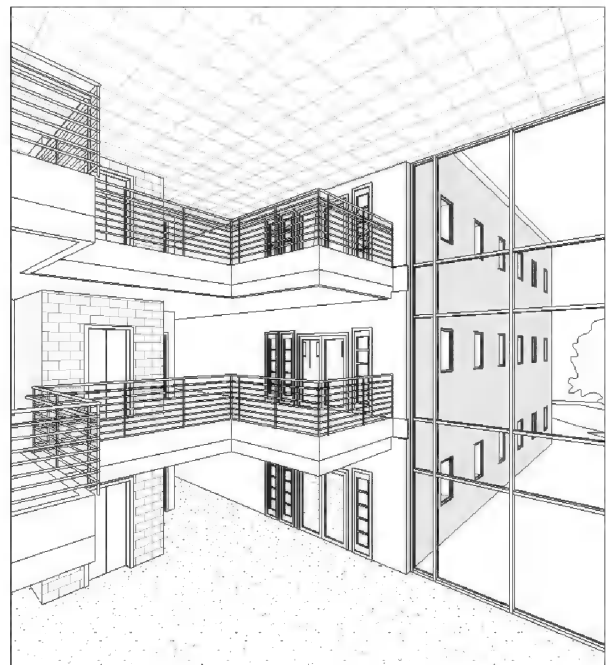

FIGURE 13-4.3 Modified interior camera
5. Using the **Crop Region** rectangle, modify the view to look like **Figure 13-4.3**.